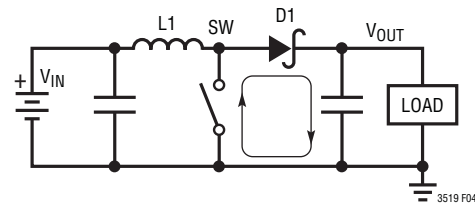

Figure 4. High Frequency Path
As with all switching regulators, careful attention must be paid to the PCB board layout and component placement. To prevent electromagnetic interference (EMI) problems, proper layout of high frequency switching paths (see Figure 4) is essential. Minimize the length and area of all traces connected to the switching node pin (SW). Keep the sense voltage pins (ISP and ISN) away from the switching node. The bypass capacitor on the V_{IN} supply to the LT3519 should be placed as close as possible to the V_{IN} pin and GND. Likewise, place C_{OUT} next to the CATHODE pin. Do not extensively route high impedance signals such as FB and CTRL, as they may pick up switching noise. Figure 5 shows the recommended component placement.